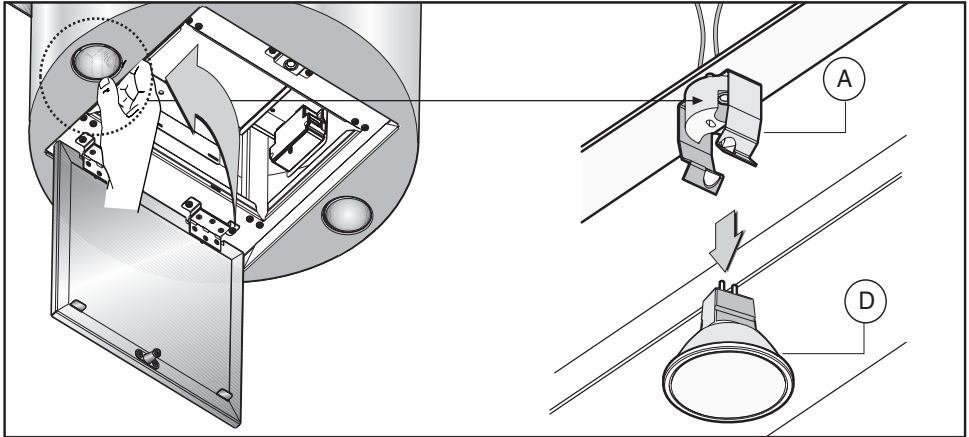

Fig.13
• Replacing halogen light bulbs (Fig. 13).
To replace the halogen lamps **B**, from the inside of the cooker hood press downwards with two fingers as shown in Fig. 13.